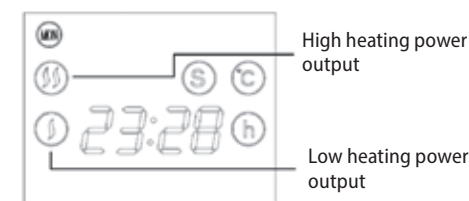

Fig. 3
Press the (flame) button to regulate high and low heating power output, when the low power output is selected, the display will be showing (S). When the high power output is selected, the display will be showing (flame), see Fig. 3.